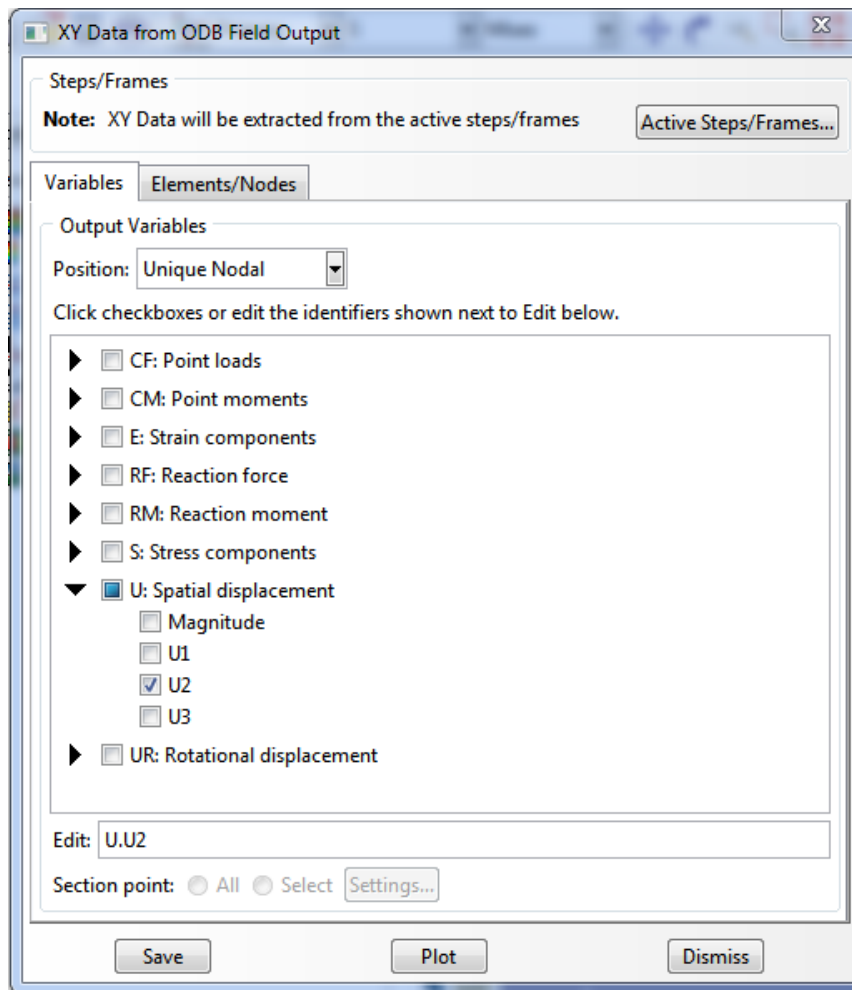

Figure 13. Selecting the y-displacement for a data set.
- b. Open the U: Spatial displacement and mark U2, see Figure 13.